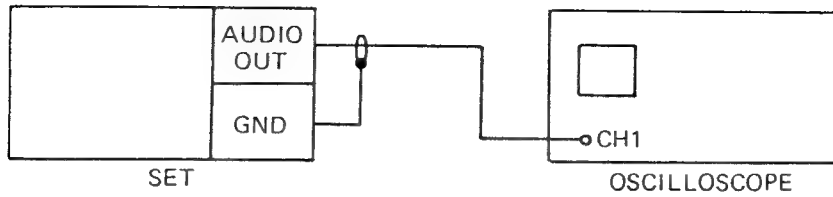

Fig. 4-14
1. Connect CH1 of oscilloscope to AUDIO OUT. (Fig. 4-14)